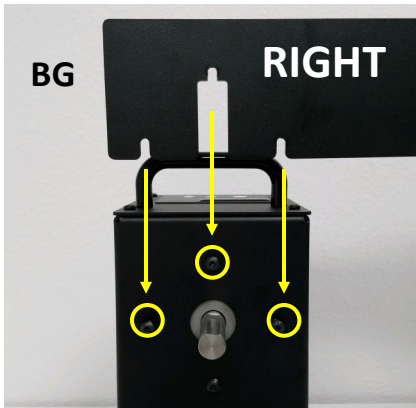
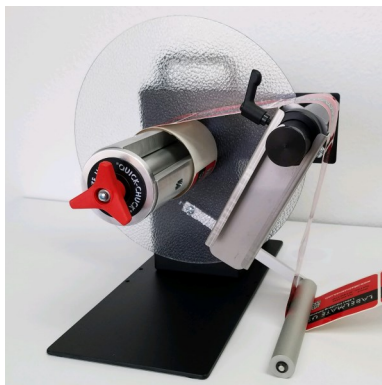
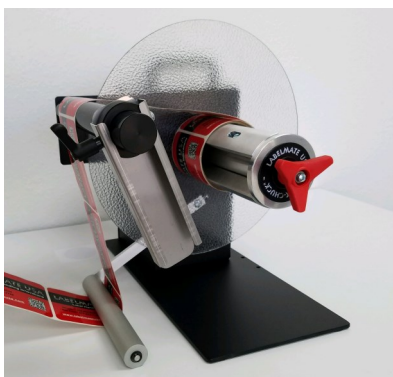

FIG. 1
FIG. 11
FIG. 16
- The Bracket Guide (BG) is mounted on the Right side for labels moving from Right-to-Left. (FIG.1 and FIG.11)
- Loosen (but do not remove) the 3 upper screws on the chassis and slide the BG in between the screws and chassis as shown in FIG.1, FIG.2 , and FIG.3. Tighten the screws to firmly affix the BG in place.
- Depending on your printer type (height of the output) it might be more suitable to guide the paper first under the Tension Arm and then over the black shaft as shown in FIG.11 and FIG.16.
- Press the START/STOP button. The UNI-CAT will now go automatically to its AUTO-START position. LED INDICATOR START/STOP should be active together with one (1) of the direction LED INDICATORS.